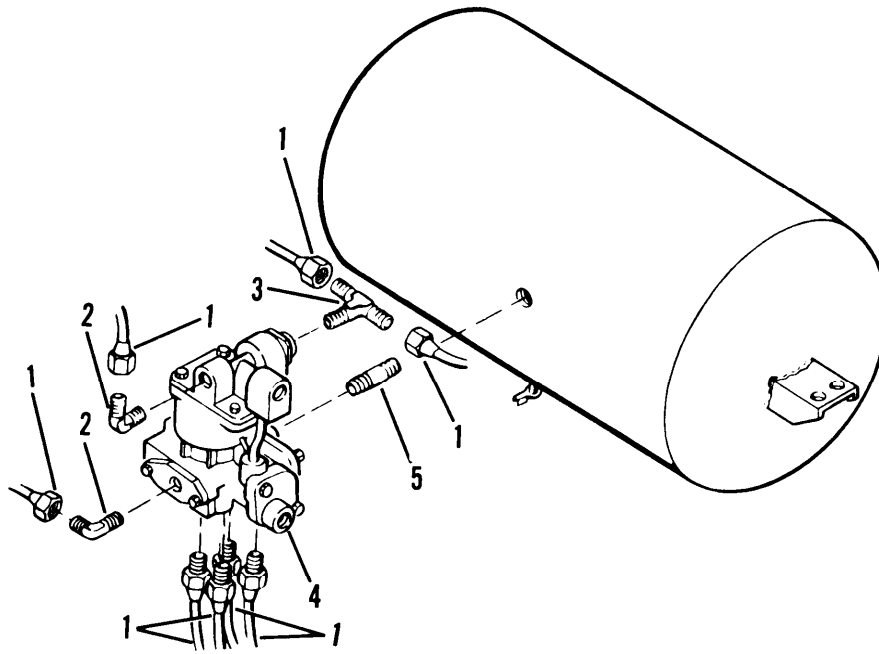

Figure 4-33. Multi-Function Valve (M871)
- (1) Disconnect eight air lines (1, fig. 4-33). Tag lines with port identification.
- (2) Remove two elbows (2) and tee (3).
- (3) Remove multi-function valve assembly (4) by rotating entire valve assembly counterclockwise.
- (4) Remove nipple (5) from rear of valve assembly (4).
- (1) Install nipple (5, fig. 4-33) to rear of the valve assembly (4). Install tee (3) to top port of valve.
- (2) Install multi-function valve assembly (4) by rotating entire assembly clockwise.
- (3) Install two elbows (2) and tee (3).
- (4) Connect eight air lines (1) per tagged identification.
- (5) Close drain cock.
- (6) Pressurize air brake system.
- (7) Check for leaks (para. 4-30).